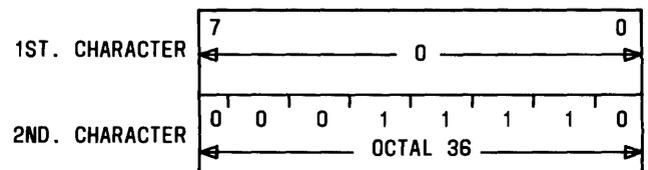

Fig. 3—End-of-Block Sequence
**2.06** The EOB sequence (Fig. 3) consists of two bytes that designates the end of the data block. The first byte is all zeros and the second byte contains an octal 36. The EOB sequence, when printed at the I/O terminal, appears as octal word 017000 for an even number of bytes in a data block. For a data block that consists of an odd number of bytes, the first byte (all zeros) of the EOB sequence and the preceding byte form an octal word. When printed, this octal word would appear in the form of 000aXX (where a = 0, 1, 2, or 3). Here 000 is the first byte of the EOB sequence. The second byte of the EOB sequence along with the first byte of the CRC data form the next octal word. When printed, this word would be of the form of XXXb36 (where b = 0 or 4). In this word b36 represents the second byte of the EOB sequence. The designation b includes the two most significant bits of the second byte of the EOB sequence and the initial bit of the first CRC byte. This particular byte sequence